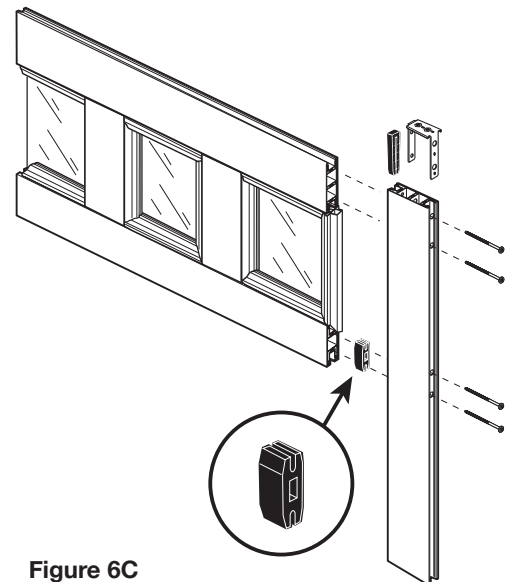

Figure 6C
Place 2 of the 4" screws into the 2 holes in the outside of the Stile channel at the bottom of the window section. Make sure they are fully inserted. Slide a small reinforcement clip (F) into the channel and over the screw shafts. Line up the 4 screws inserted through the Stile with the extrusion holes in the top rail and the bottom transom rail and tighten all 4 screws until flush and secure. See Figure 6C